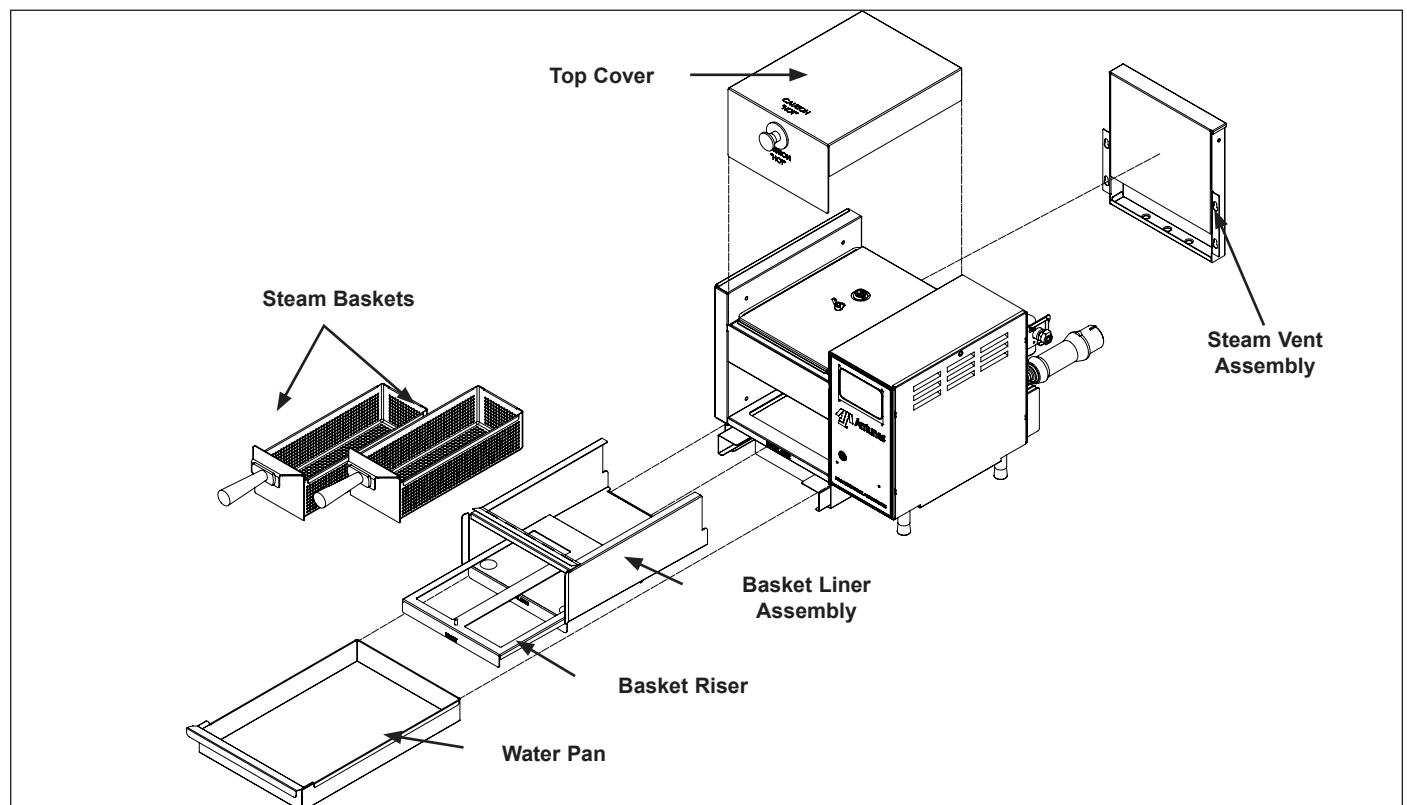

Figure 4. Components
2. Put on heat resistant gloves and remove the items in Figure 4.